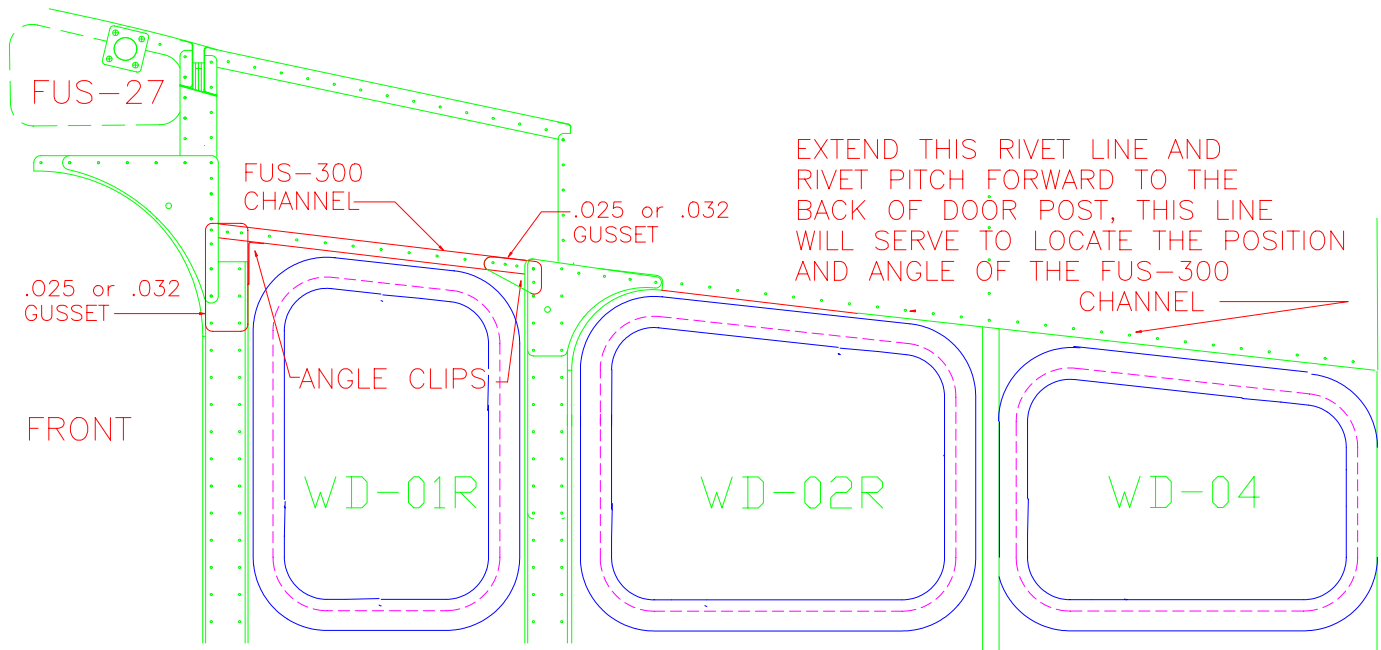

Figure 24.
- 64) Cut two pieces of FUS-300 channel to fit between the two bulkheads as in Fig 24
- 66) With the channels and gussets in place, drill #30 holes into the channel.. Also inter-space one 3/16" hole between the two existing holes in the front gusset. See gusset rivet pattern shown in Fig.24.